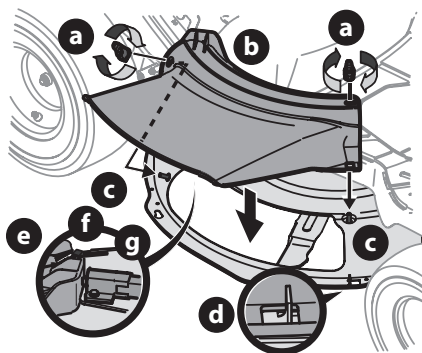

Figure 12
1. Remove the wing knobs (a) installed on the mowing deck and retain for later installation (Figure 12).
2. Install the deck chute (b) into the deck discharge opening on the deck. The rear of the chute (b) should be under the tab (f) on the rear deck bracket (g). The studs (c) on the deck surface will fit through the holes on the upper portion of the deck chute (b). The small tab (d) on the deck lip area will fit through the square cutout on the lower portion of the deck chute (b) (Figure 12).
3. Secure the deck chute (b) by tightening the wing knobs (a) removed in Step 1 (Figure 12).
NOTE: Make certain that the upper-rear portion of mulch plug (b) is depressing the safety switch (e) located on the deck surface and under the tab (f) on the rear deck bracket (g). The engine will not start without the mulch plug (b) properly in place (Figure 12).